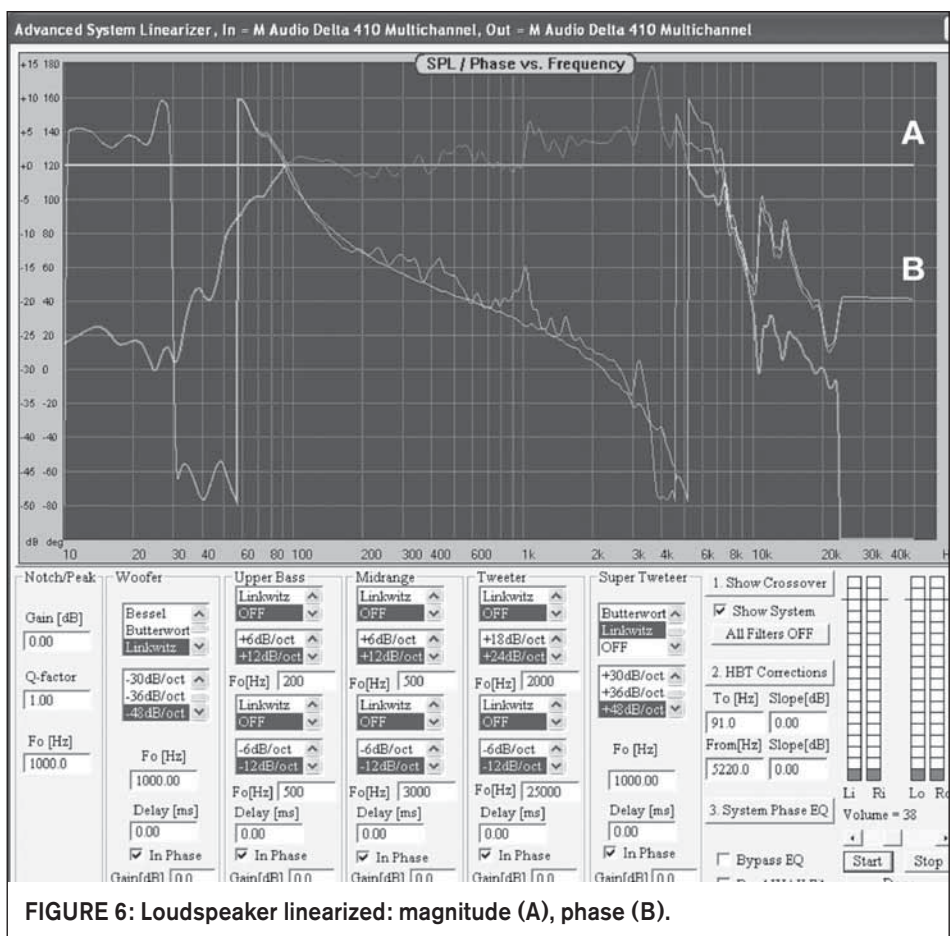

FIGURE 6: Loudspeaker linearized: magnitude (A), phase (B).
The result of amplitude linearization is shown in Fig. 6. The resulting SPL (A) is now flat within the frequency range of interest, and the phase response (B) is almost smooth within the same frequency range.
Indeed, the phase response (B Fig. 6) is smooth, but not flat. If you could somehow “reverse” the phase response, you stand a good chance that combining the reversed phase with the loudspeaker's own phase delay will yield a flat phase response of the system.
A second, equally important, conclusion comes from analyzing **Fig. 6**. The Amplitude Error Function makes the magnitude and phase of the loudspeaker smooth, but it does not change macro-characteristics of the phase response, or rather, it does not "unwrap" the phase. The importance of this is that you can equally apply the HBT-based Amplitude Error Function to smooth the magnitude and phase response of non-minimum phase systems, such as a multi-way loudspeaker system, complete with crossover.